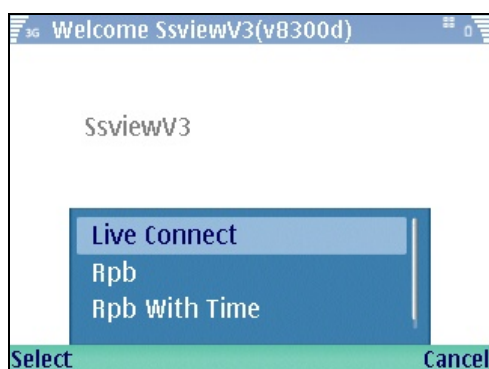

Figure 8-71
3. Click **Options**, and then select **RPB** (see Figure 8-71). If you want to search the recordings within a specific period of time for playback, select **RPB With Time**.